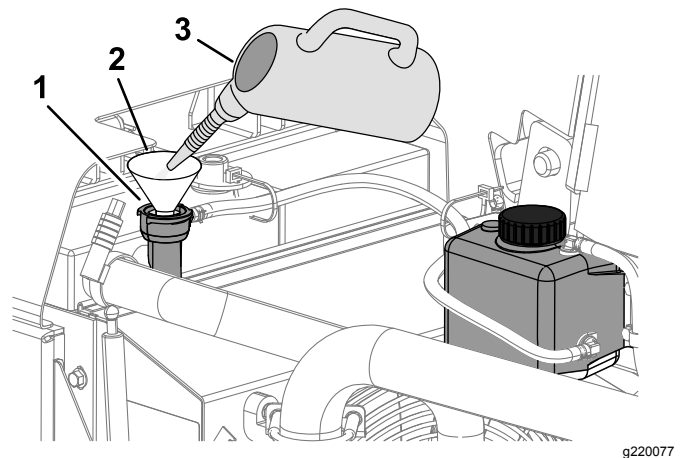

Figure 109
3. Fill the radiator with coolant until the fluid level is up to the bottom of the filler neck (Figure 109).